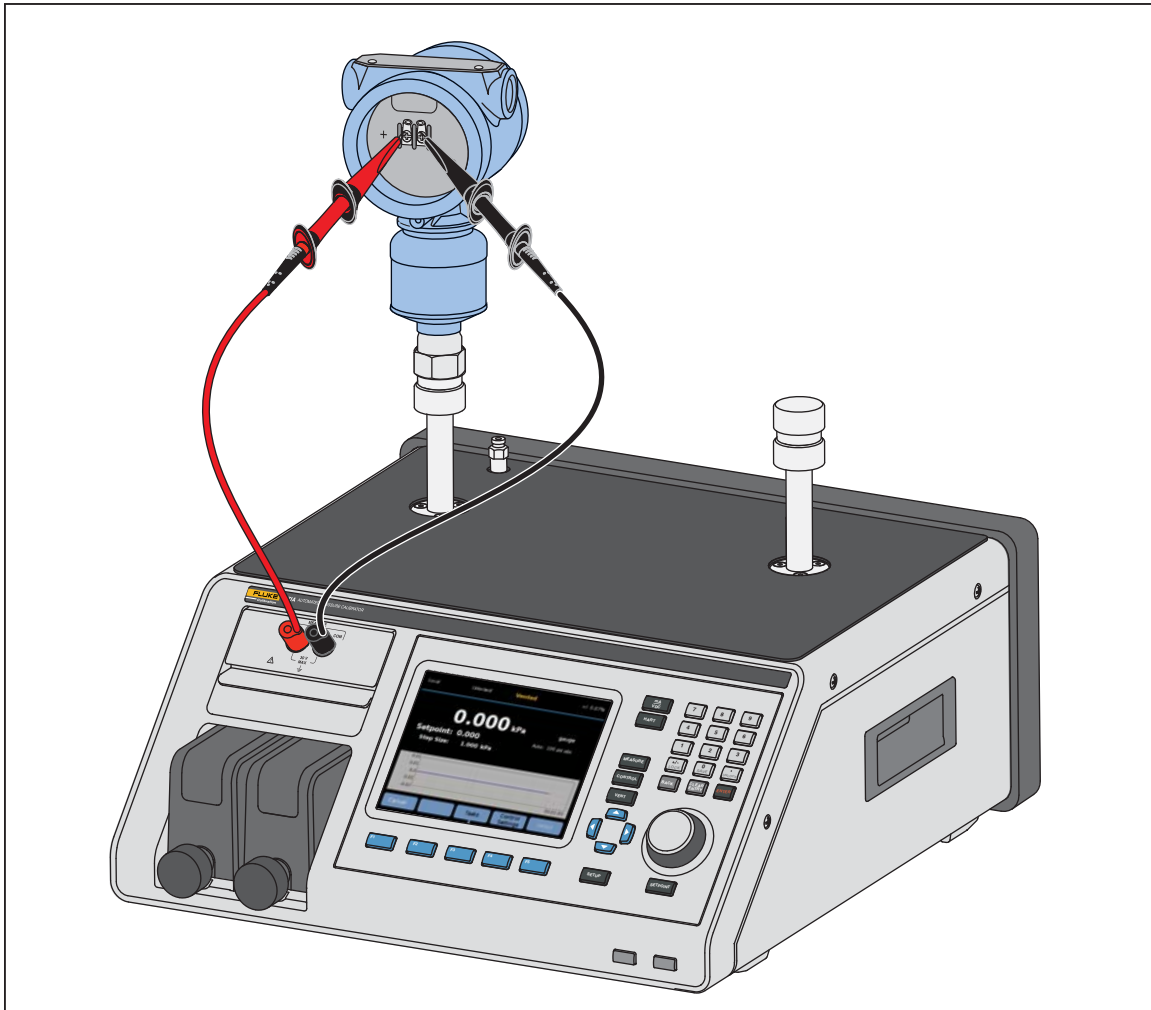

Figure 14. Typical HART Static Pressure Transmitter Connection Through the EMM Module
1. Connect the transmitter to one of the pressure ports and connect the test leads from the EMM to the appropriate terminals on the pressure transmitter. Observe polarity. See Figures 14 and 15. Make sure to plug the other test port that is not in use.
1. Connect the test leads from the EMM to the appropriate terminals on the HART device. Observe polarity. See Figures 14 and 15.